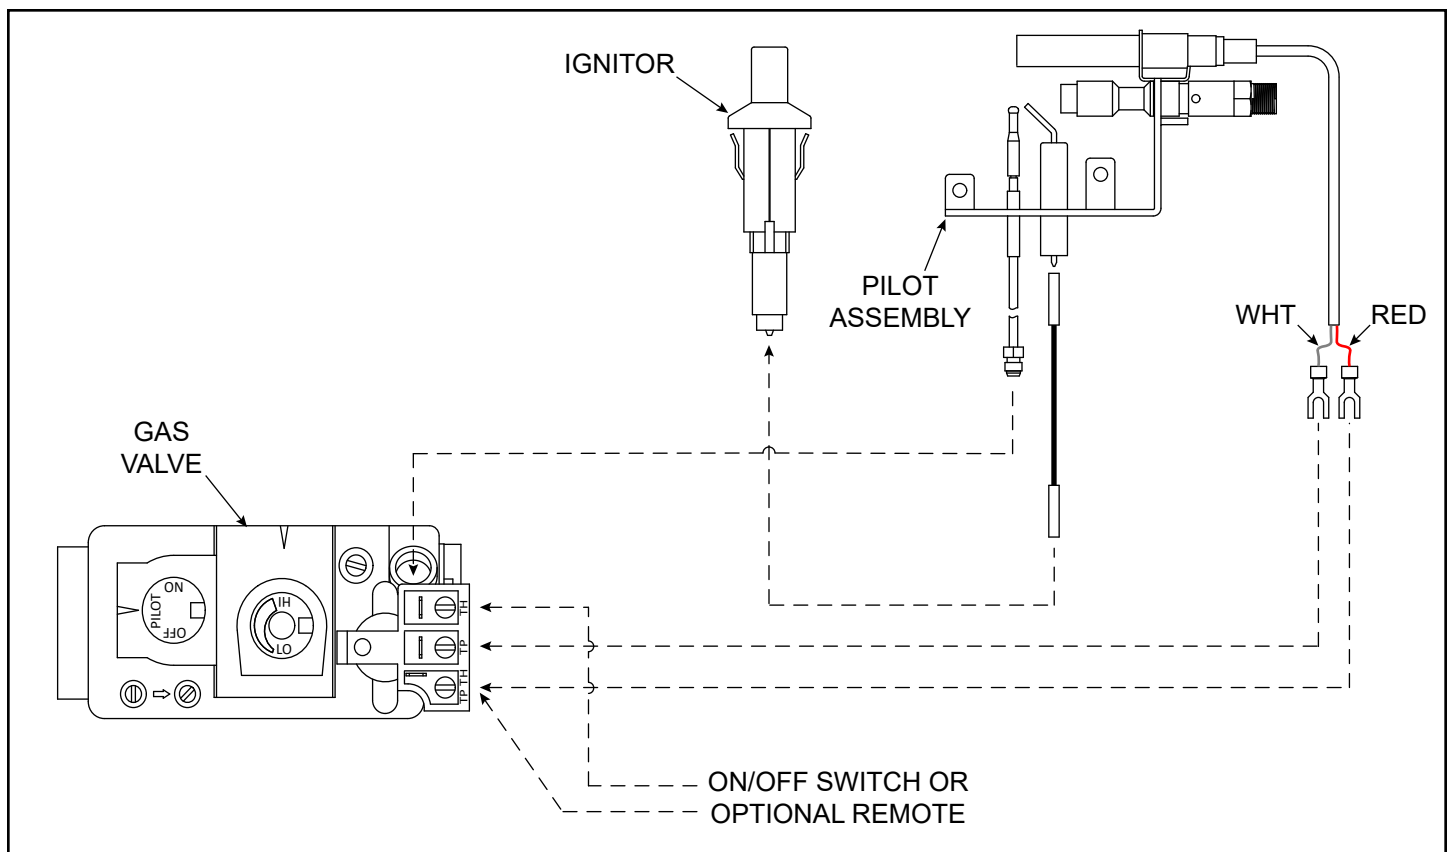

Figure 8.1 Standing Pilot Wiring
1. Connect the On/Off Switch and/or Remote Receiver to appliance gas control valve as shown in Figure 8.1.